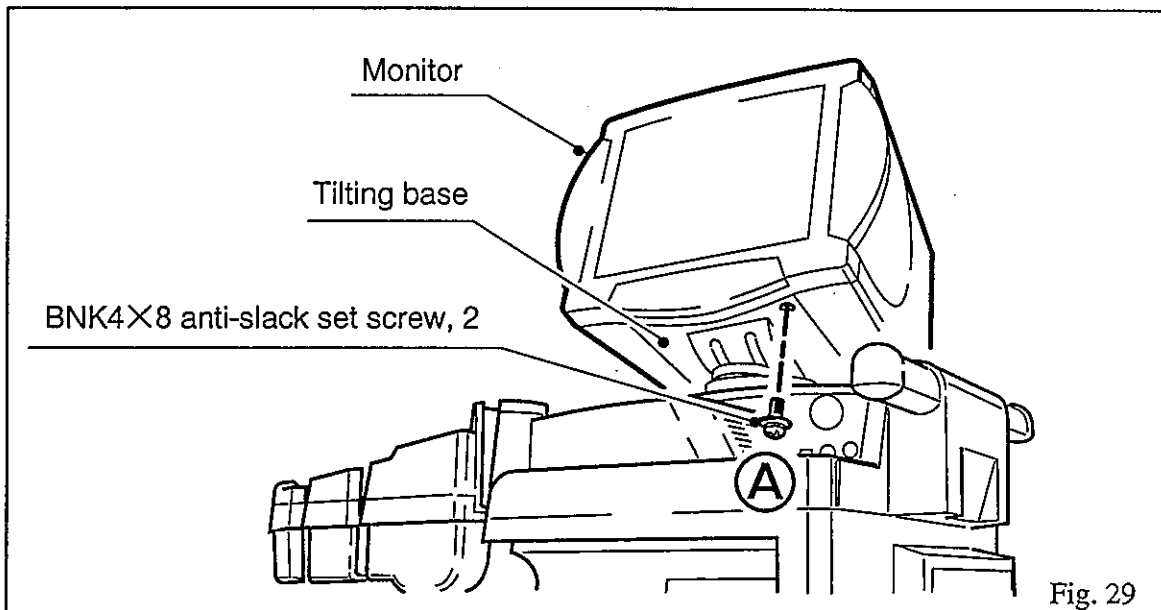

Fig. 29
- (4) Rotate tilting base so that its right front screw will be positioned as illustrated below. Then, push up monitor in front and unfasten 1 screw. (Symmetrically, unfasten 1 screw, likewise, on the left side of body.) (A in fig. 29)